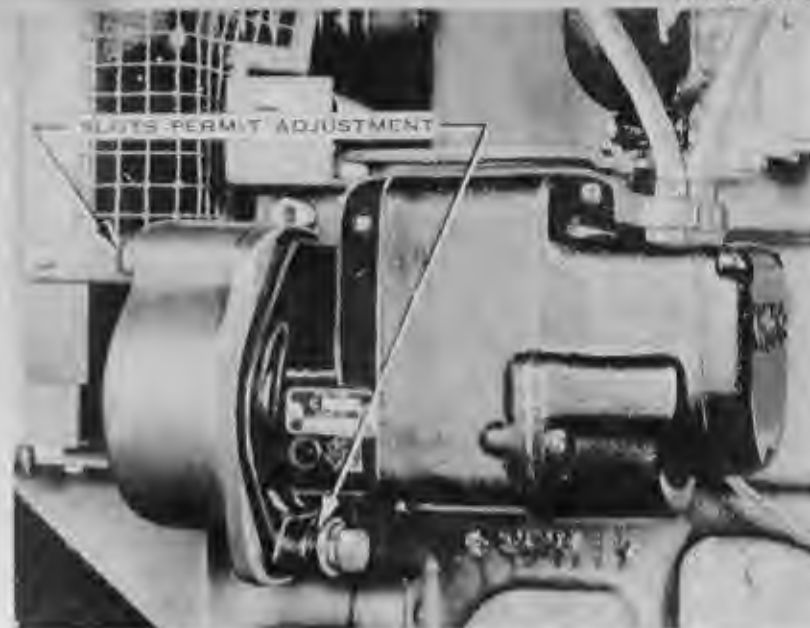

FIG. 55 MAGNETO MOUNTED ON ENGINE
- b. Then crank the engine very slowly and note whether the impulse coupling trips when the timing marks on flywheel and crankcase are exactly in line. If not, the timing is incorrect. If not too far off, it may be corrected by loosening the cap screws which hold the magneto flange and turning the magneto frame slightly. See Fig. 55. If too far off, it will be necessary to disengage the teeth of the magneto gear and turn it one or more teeth to advance, or to retard the timing. Make final adjustment by shifting the position of the magneto as already described. This method, times the spark to occur at top dead center at cranking speed. The impulse coupling advances the spark for normal running speeds. The advance should amount to 25° (about 1/4 in pitches on the flywheel). If a neon test lamp is available, timing should be checked at running speed. If necessary, remove the magneto and move the impulse stop plate clockwise to decrease or counter-clockwise to increase the amount of advance. One division on the scale is equivalent to about 5° or 1/4 in pitch as measured on the flywheel. After changing the